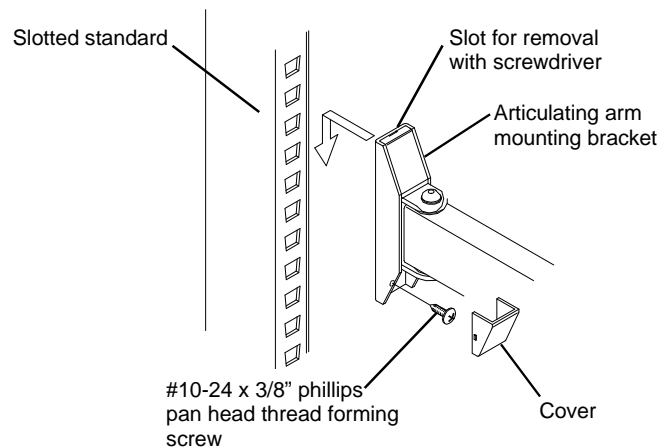

Figure 3
1. Determine the desired location on the Organizer/ Frame and insert the hooks on the back of the Articulating Arm mounting bracket into the slotted standard. See **Figure 3**.
3. Secure the mounting bracket to the standard using the #10-24 x 3/8" phillips pan head thread forming screw provided. See **Figure 3**.